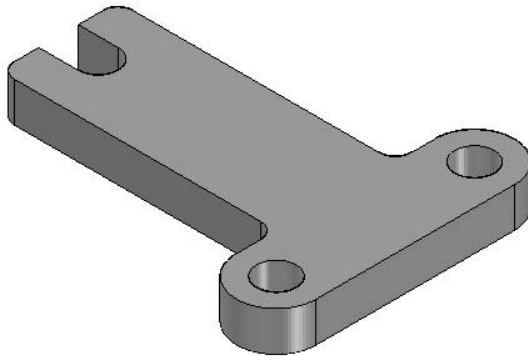

Figure 5-70 Base feature of the model
- a. Create the base feature with two holes on the top plane, refer to Figure 5-70.
6. Choose **Finish** and then choose **Cancel** from the command bar. The base feature of the model is shown in Figure 5-70.